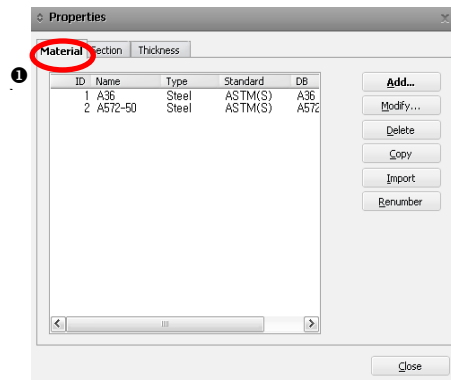

Figure 4.4 Section Attributes Dialog Box
2. Click **Material** tab in the **Properties** dialog box (Figure 4.4 ①).
1. Select the **Section** tab in the **Properties** dialog box (Figure 4.4) or select **Property > Section** from the Main Menu.